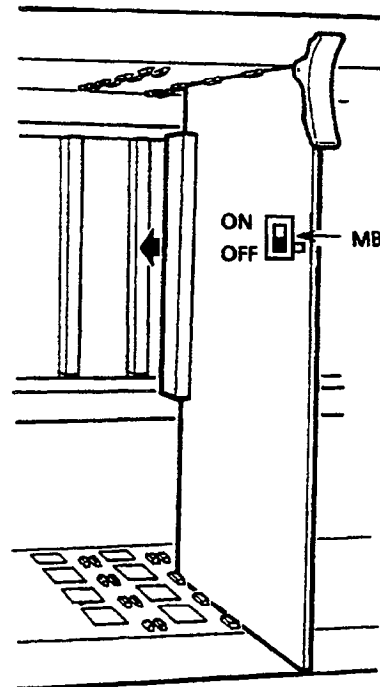

Figure 3-64 KTU Positions on the KSU
2. The MB switch on the KTUs (except the CPU and MMC KTUs) protects circuits from damage during installation. If the system power is ON (during KTU installation), ensure the MB switch is OFF. Refer to Figure 3-64 - KTU Positions on the KSU.